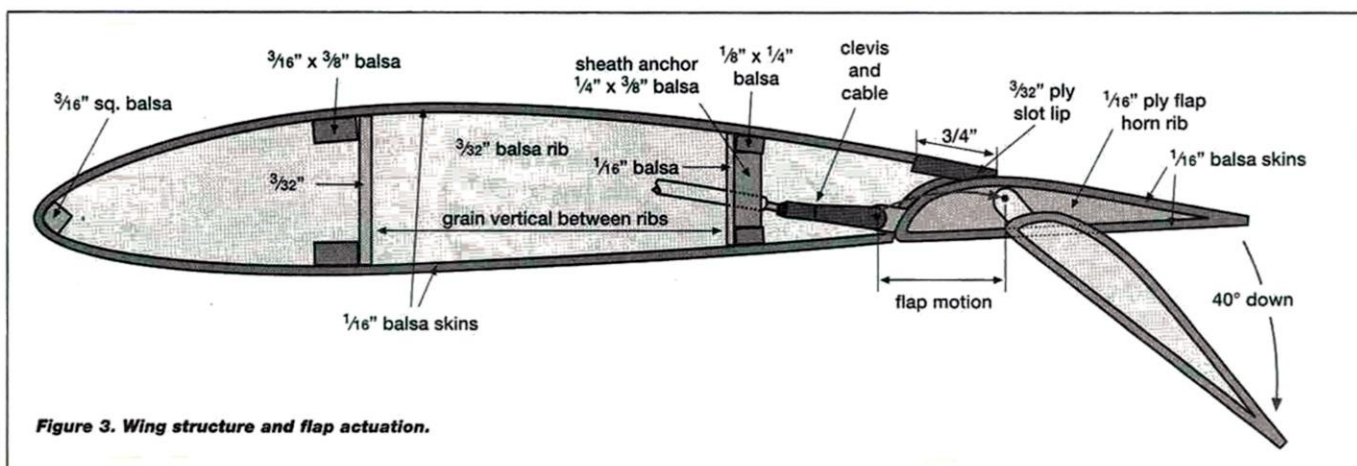

Figure 3. Wing structure and flap actuation.
Now, wing-flap and flap-supporting actuation structure may be detailed as in Figs. 3 and 4. The main spar is located at the airfoil's maximum depth. The rear-spar location should be sufficiently ahead of the flap leading edge to provide space for the flap horn and clevis, in the flap "up" posi-
Exponential ("expo") is a mathematical term describing a curve that grows steeper the farther away you get from its starting point. When applied to an R/C system, expo is a way to get the effect of dual rates without having to flip a switch, since the farther you move the stick, the higher the servo response is. If this explanation doesn't make sense to you, refer to Figure 3 for an illustration of expo.
First, notice that the exponential curve in Figure 3 changes very smoothly. For this reason, it is possible to have low sensitivity at low stick angles (like dual rates) and yet have full motion at larger stick deflections. Many systems allow you to have two different values of exponential—one at each position of the toggle switches on the transmitter. These may or may not be the same switches that control dual rates, described earlier (consult your system's manual to find out for sure). To get a feel for how exponential works, just hold partial stick, and switch it on and off (if you can, or else switch from no expo to a value like 50 percent while holding partial stick). You'll see how it
**Figure 3. Exponential provides a smoothly varying control response to make flying smoother around neutral by reducing stick-to-servo action, yet it provides full servo travel with higher stick motions. Expo can be a great help for flying sensitive models smoothly. Notice that the higher the amount of expo, the less sensitive the model is near neutral, and the more sensitive it is away from neutral.**